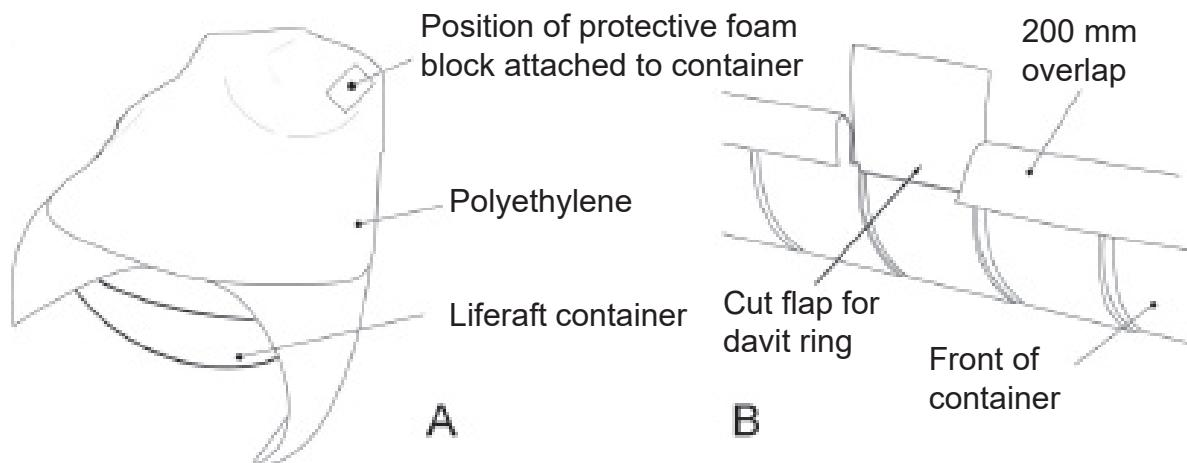

FIGURE 817
- 4.1.2 Attach a protective foam block to the inside of the container. Refer to FIGURE 817 Detail A. This protective foam block prevents the cylinder operating head from impacting the container side during handling and deployment.
- 4.1.4 For Davit-launch only, use a pair of scissors to cut the two sides in the polyethylene where the davit ring will exit. Refer to FIGURE 817 Detail B.
(c) Line the bottom half of the Flat-Pack container with a polyethylene sheet. Refer to FIGURE 817 Detail A.
- (c) Line the bottom half of the Flat-Pack container with a polyethylene sheet. Refer to FIGURE 817 Detail A.